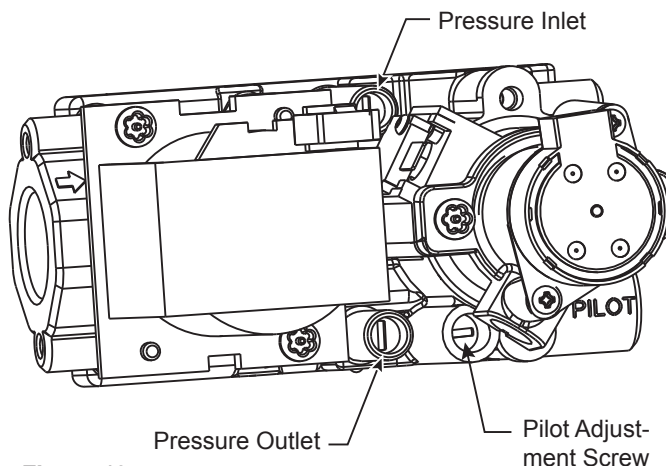

Figure 13 -
4. To check gas pressures at valve, turn captured screw counter clockwise 2 or 3 turns and then place tubing to pressure gauge over test point. Turn unit to high. *Figure 13.* After taking pressure reading, be sure and turn captured screw clockwise firmly to reseal. Do not over torque. Check test points for gas leaks.